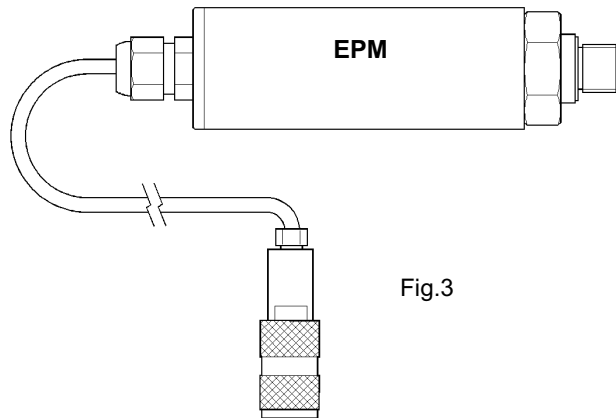

Fig.3
(See Fig.3 opposite)
**1.6.8 Voltage Output** A voltage of +10V or +24V may be sourced from the PC6-PRO by connecting to the 2mm sockets. A typical application for this voltage output would be to power a pressure transmitter. ( see Fig. 3. page 10 )